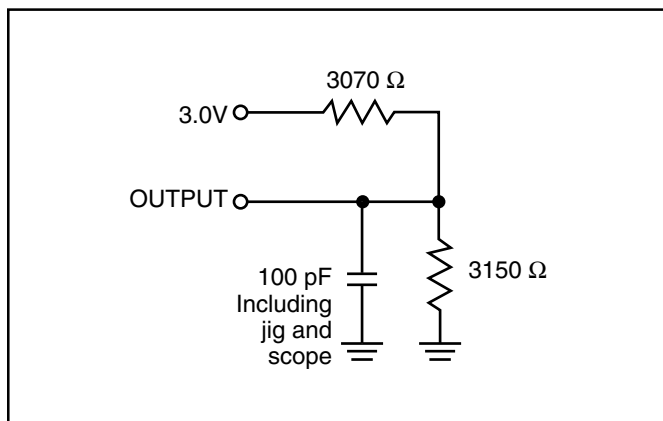

Figure 1
Output Load	See Figures 1 and 2
1. Test conditions assume signal transition times of 5 ns or less, timing reference levels of 1.5V, input pulse levels of 0.4 to 2.2V and output loading specified in Figure 1.
1. Test conditions assume signal transition times of 3 ns or less, timing reference levels of 1.5V, input pulse levels of 0.4V to 2.2V and output loading specified in Figure 1.